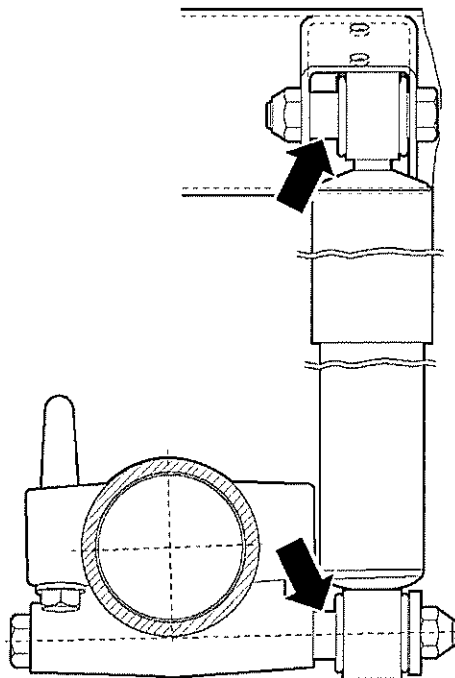

Fig 8 Shock absorber
5.20.1 Smear shock absorber screw threads and shafts with Loctite Anti Seize compound before refitting. Tighten screws when shock absorber is in extended position to correct torque (see Table 2, Ser 6) (see Fig 8).